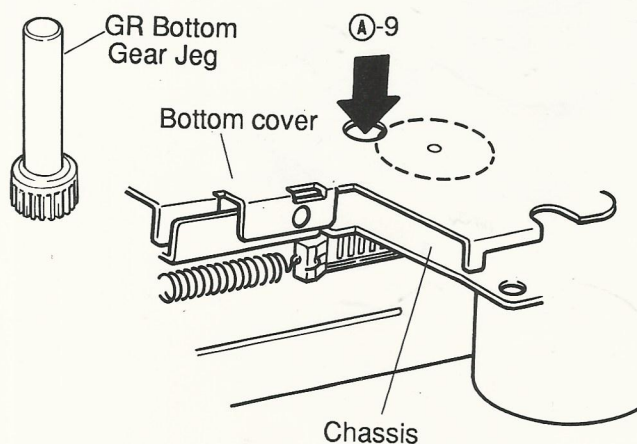

Figure 4
- (12) Since the hooks marked ④-8 will be lifted slightly as shown in Figure 4, insert the jig through the hole ④-9, and fix it turning the jig slightly.
(Refer to Figure 4 and 5.)
- (14) Insert the jig into the hole (A-9) as shown in Figure and rotate the eject solenoid counterclockwise about 20 times, pulling it in the direction (A-10) with the finger. Then the eject operation is completed. Instead of operation (14), the eject operation can be performed by mounting the mechanism to the product. (Refer to Figures 4 and 5.)